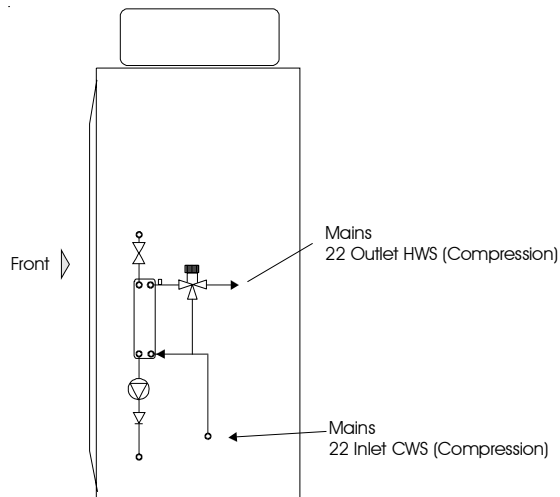

Fig 3.1 Pulsacoil III pipe connection arrangement
- Make all water connections in accordance with the labelling on the thermal store and the associated pipework as shown in Figure 3.1.